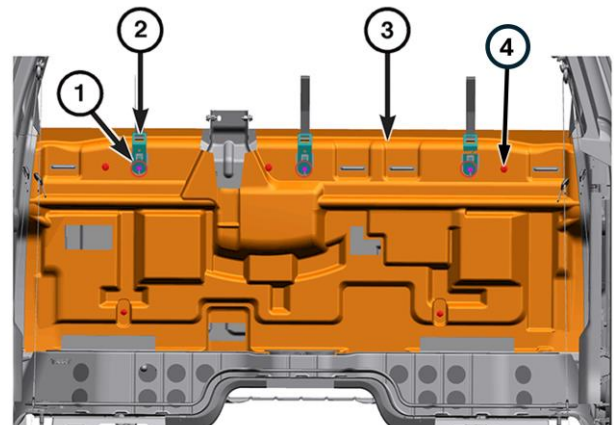

Figure 10 – Rear Cab Back Trim Panel
6. Remove the five push-pin fasteners and remove the rear cab trim panel (Figure 10).
14. Install the five push-pin fasteners that secure the rear cab trim panel (Figure 10).
15. Install three **NEW** bolts that retain the three child seat tethers to the rear cab and tighten to 12 N·m (9 Ft. Lbs.) (Figure 10).